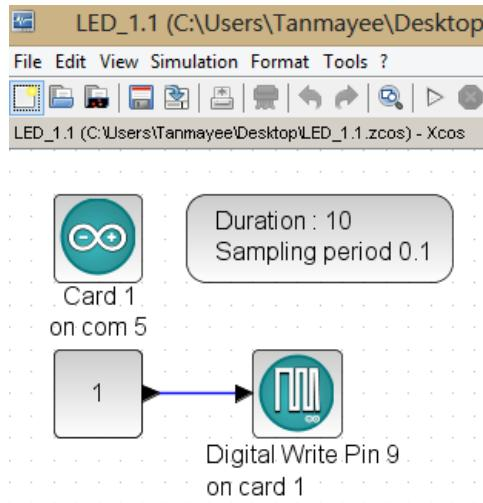

Figure 4.5: Turning the blue LED on through Xcos. This is what one sees when `origin/user-code/led/scilab/led-blue.zcos`, see Footnote 2 on page 2 is invoked.
1. First we will see how to turn on the blue LED. When the file required for this experiment is invoked, one gets the GUI as in Fig. 4.5. In the caption of this figure, one can see where to locate the file.